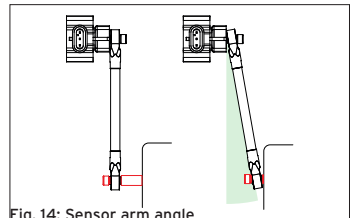

Fig. 14: Sensor arm angle
6. Mount the coupling rod to the sensor arm and the mounting point on the suspension. Pay attention to the angle between the coupling rod and the sensor arm (Fig. 14). This angle must not exceed 15 degrees and can be adjusted by adding spacers to the mounting point.